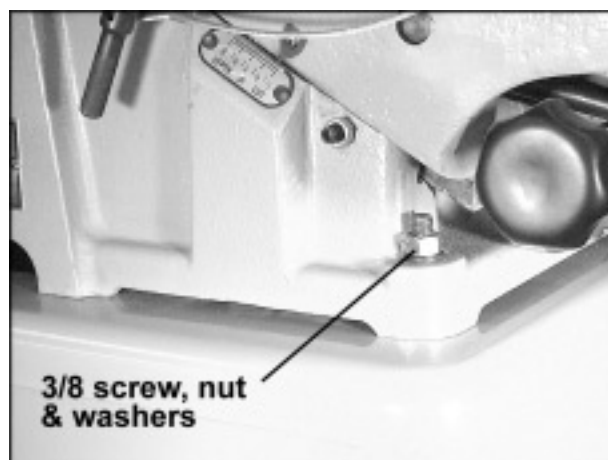

FIGURE 2
2. Align the holes in the bottom of the jointer bed with the holes in the top of the stand, and secure with three 3/8-16 x 2-1/4 mounting screws, three 3/8 hex nuts, three 3/8 flat washers, and three 3/8 lock washers. Tighten with a 9/16" wrench. See Figure 2.